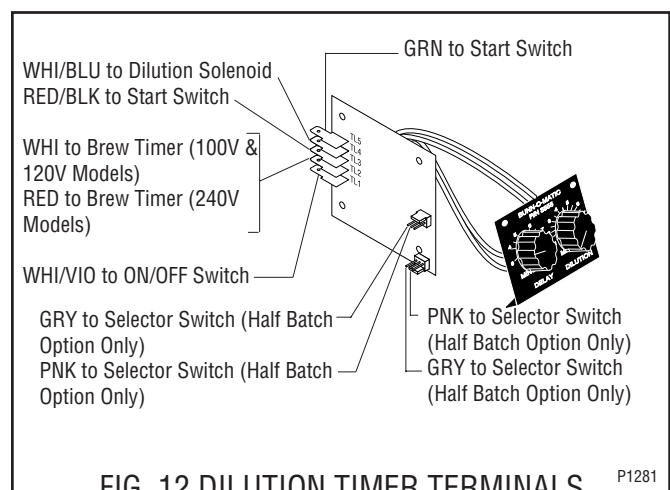

FIG. 12 DILUTION TIMER TERMINALS
5. Refer to Fig. 12 when reconnecting the wires.